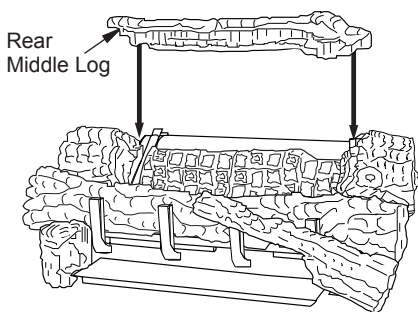

Figure 30 - Installing Rear Middle Log
7. The rear middle log should fit between the ramp log and the rear burner. The left and right middle logs have recessed areas for the rear middle log to sit into (See Figure 30). Be careful not to push the rear burner out of position while installing this log.